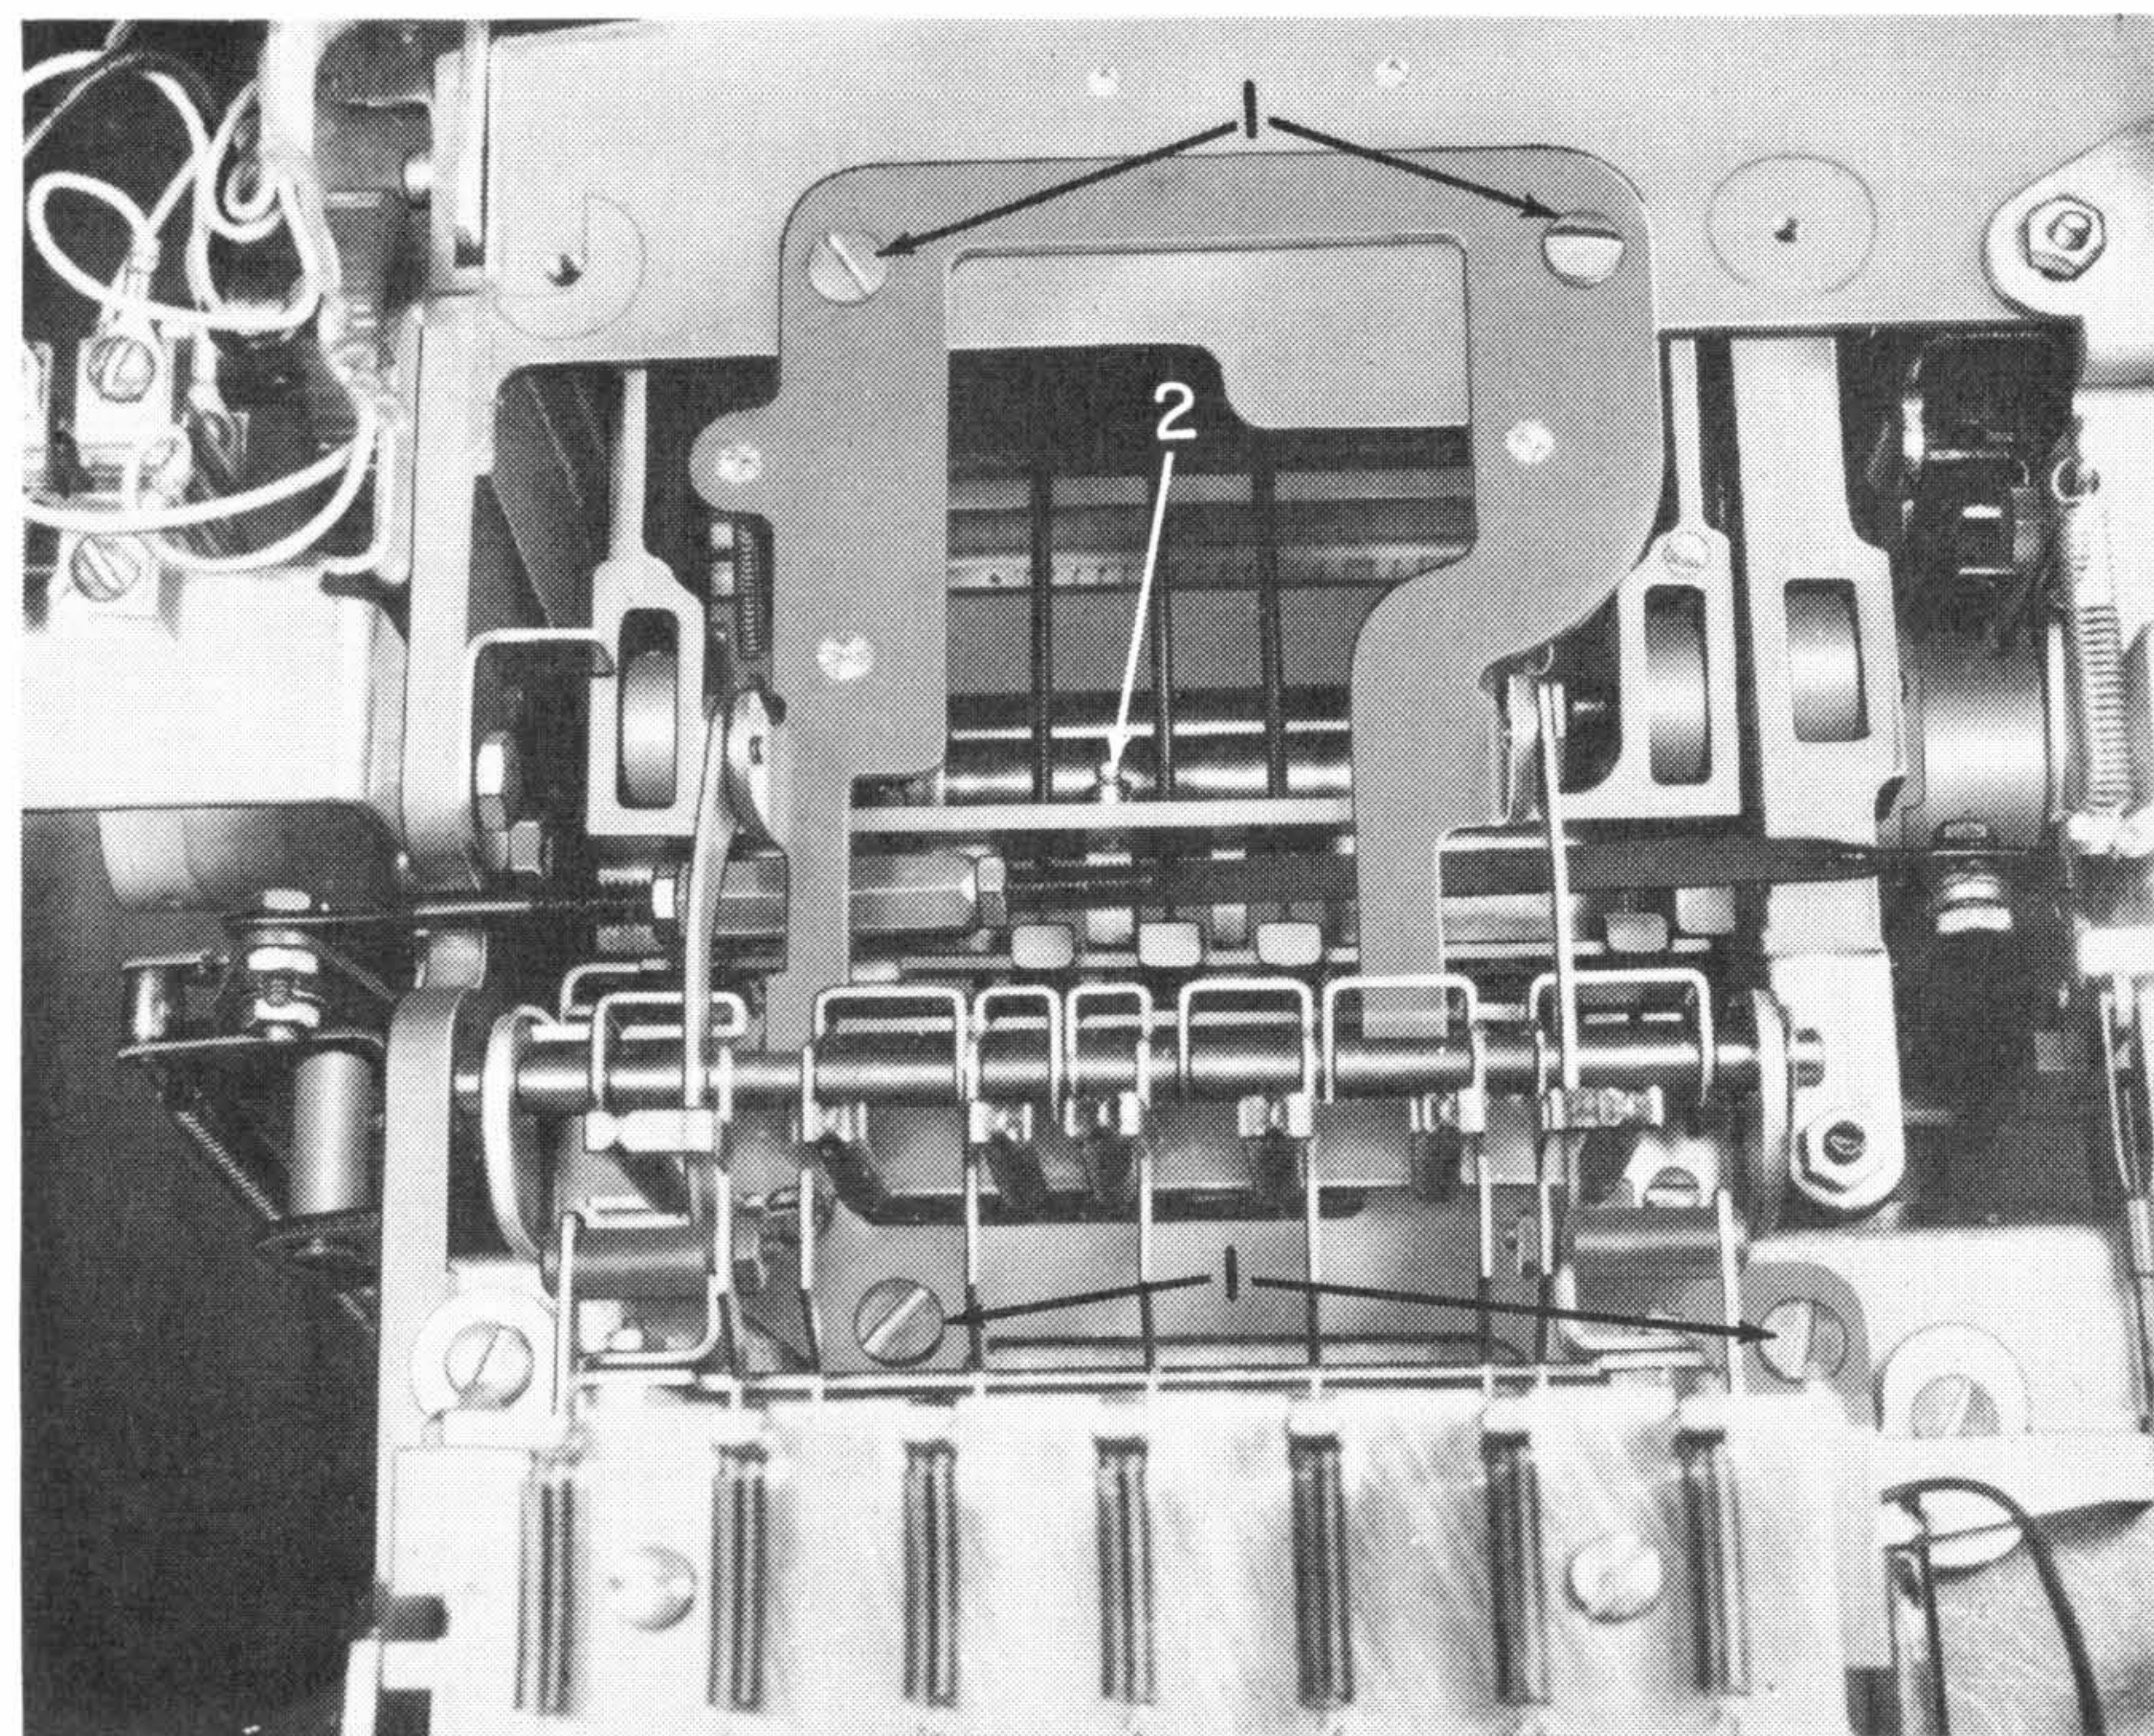

Figure 34. Selector Bail Removal
2. Scribe the power frame, remove the four mounting screws (#1, Figure 34), and carefully remove the pusher-arm assembly.
3. Remove the positive bail spring (#2, Figure 34) and pull the bail down.